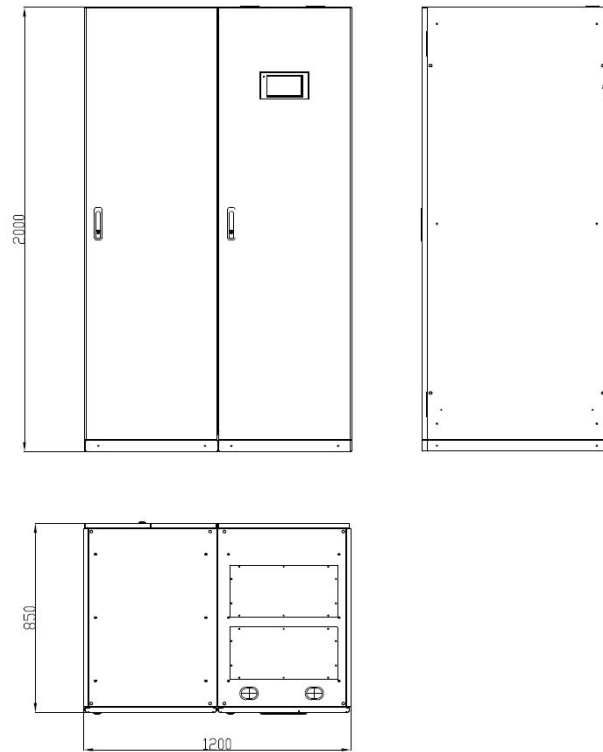

Fig. 2-2 Cabinet dimension of 400kVA and 500kVA UPS s (unit: mm)
2) 400kVA and 500kVA VA UPSs have same cabinet dimensions, as shown in Fig. 2-2.